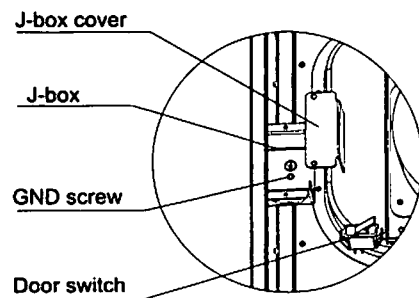
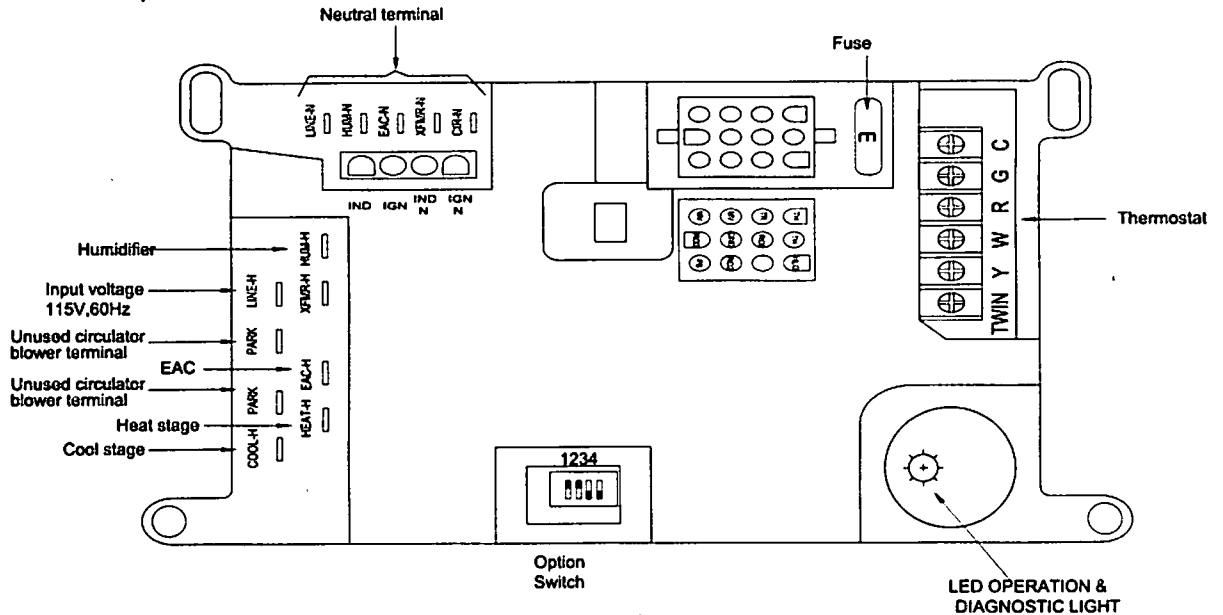
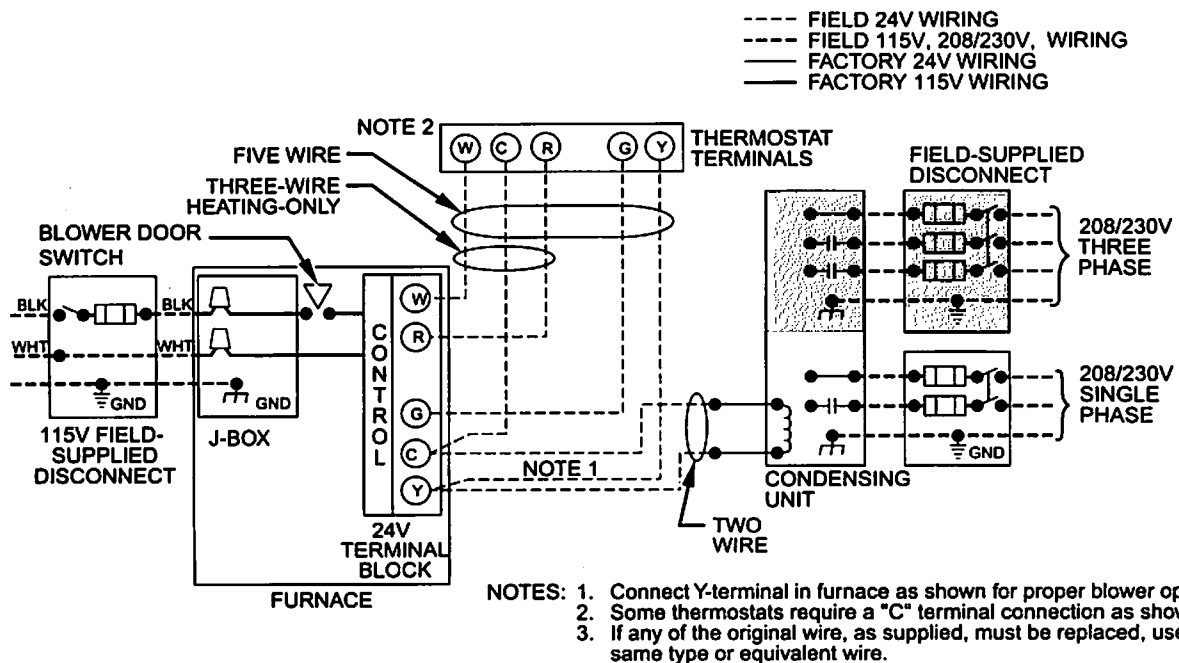

Fig. 25 - J-box
Fig. 26 - Furnace Control
Fig. 27 - Heating and Cooling Application Wiring Diagram with I-Stage Thermostat
Field-Supplied Electrical Box on Furnace J-Box Bracket See Fig. 25.
5. Connect line voltage leads as shown in Fig. 27.
Electrical Box on Furnace Casing Side. See Fig. 25 and Fig 27.
4. Remove and save two screws holding J-Box. (See Fig. 25.)
12. Complete electrical box wiring and installation. Connect line voltage leads as shown in Fig. 27. Use best practices (NEC in U.S. and CSA C22.1 in Canada) for wire bushings, strain relief, etc.
Make field 24V connections at the 24V terminal strip. (See Fig. 26.) Connect terminal Y/Y2 as shown in Fig. 25 for proper cooling operation. Use only AWG No. 18, color-coded, copper thermostat wire. The 24V circuit contains an automotive-type, 3-amp. fuse located on the control. Any direct shorts during installation, service, or maintenance could cause this fuse to blow. If fuse replacement is required, use ONLY a 3-amp. fuse of identical size.
Connect an accessory Electronic Air Cleaner (if used) using 1/4-in female quick connect terminals to the two male 1/4-in quick-connect terminals on the control board marked EAC-H and EAC-M. The terminals are rated for 115V AC, 1.0 amps maximum and are energized during blower motor operation. (See Fig. 26.)
Connect an accessory 115V AC, 0.5 amp. maximum humidifier (if used) to the 1/4-in male quick-connect HUM-H terminal and HUM-N terminal on the control board. The HUM terminal is energized when gas valve relay (GVR) is energized. (See Fig. 26.)
1. Maintain 115V wiring and ground. Improper polarity will result in rapid flashing LED and no furnace operation. (See Fig. 27)
2. Make thermostat wire connections at the 24-V terminal block on the furnace control. Failure to make proper connections will result in improper operation. (See Fig. 27.)
(See Fig. 27 for thermostat connections.)
(See Fig. 27 for thermostat connections)